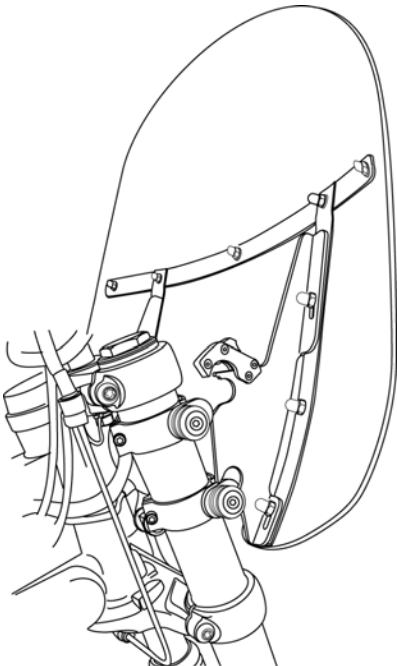

Fig. 4
4. Start with Fork Clamp Bushing adjusted to rear of slot (fig. 4) Then adjust as needed and check for clearance. (See warning above.)